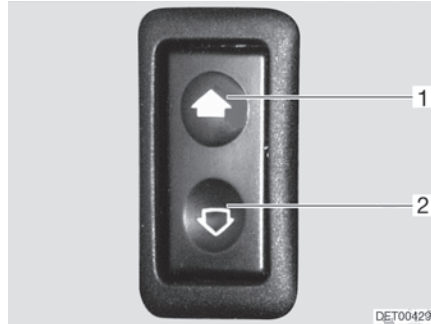

Fig. 26 Switch for electrical window winder
- Opening:* ■ Press the lower part (Fig. 26,2) of the switch.
- Closing:* ■ Press the upper part (Fig. 26,1) of the switch.